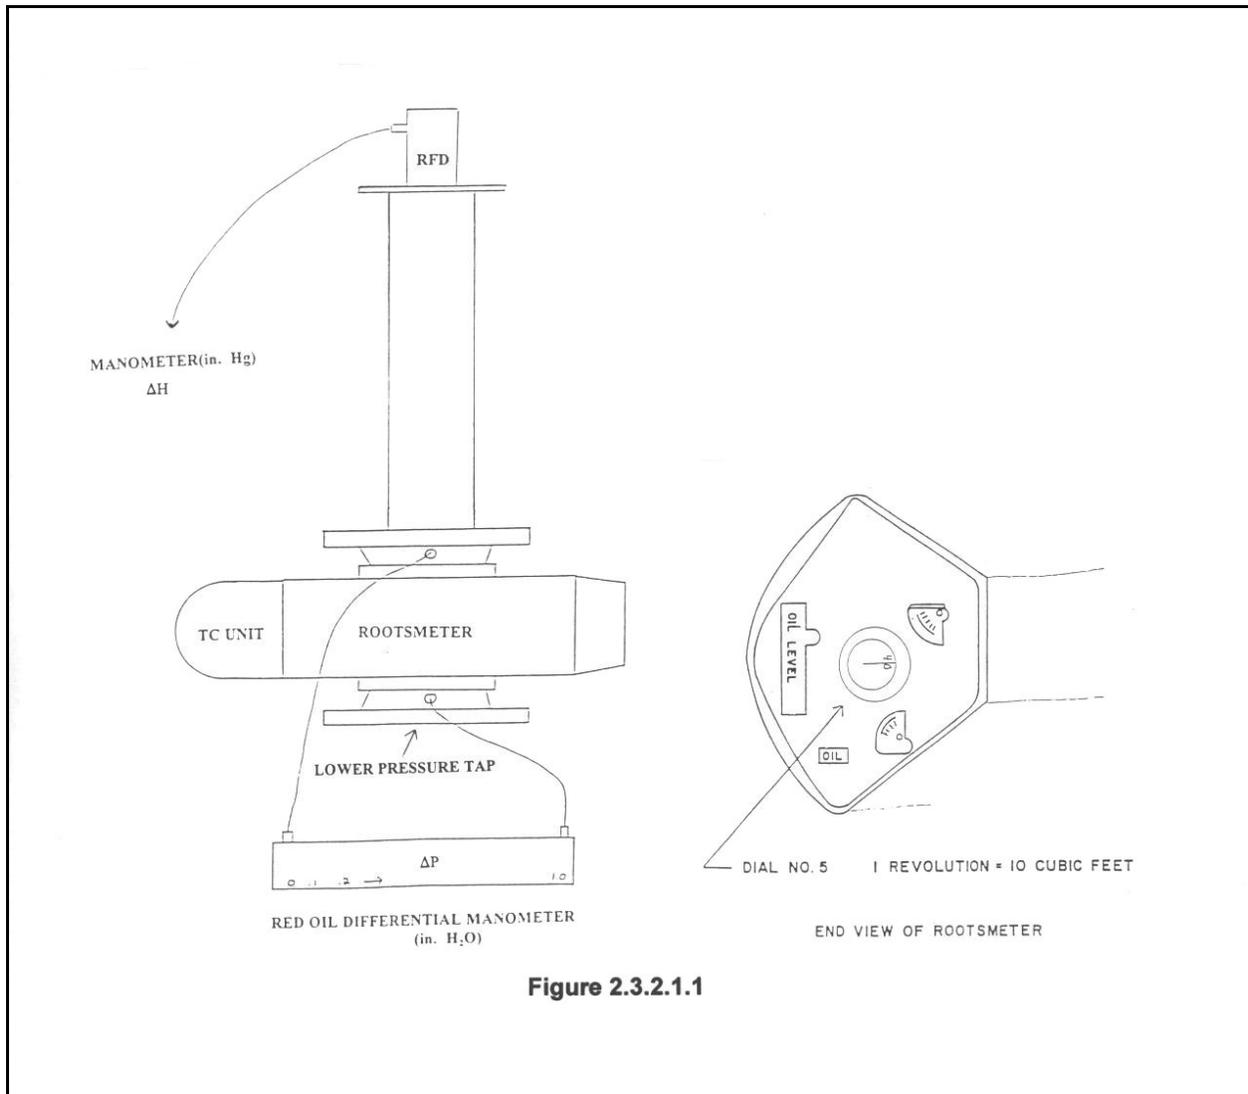

Figure 2.3.2.1.1
Set up is as depicted in the diagram depicted on Figure 2.3.2.1.1, p5.
Remove the lower pressure plug (see figure 2.3.2.1.1, p5) and install a tube connector fitting. **DO NOT** remove the oil drain plug on the bottom or the oil fill plugs on the top of the rootsmeter. Attach the "0 in." side of the differential manometer(P) to the upper vacuum tap on the side of the unit. Attach the "1 in." side of the differential manometer to the lower vacuum tap on the side of the unit (normally plugged). Install the Top Hat orifice on top with a 4 hole restrictor plate. Attach and turn on the digital manometer to the orifice side port(H). Install the PM-10 motor.
- c. Time the passage of 110 ft³ of air with a stop watch. Each revolution of the rootsmeter displaces 10 ft³ of air. Therefore, by counting 11 completed revolutions of the shaft (see figure 2.3.2.1.1,p5) as observed through the compensated temp gage equals 110 ft³.